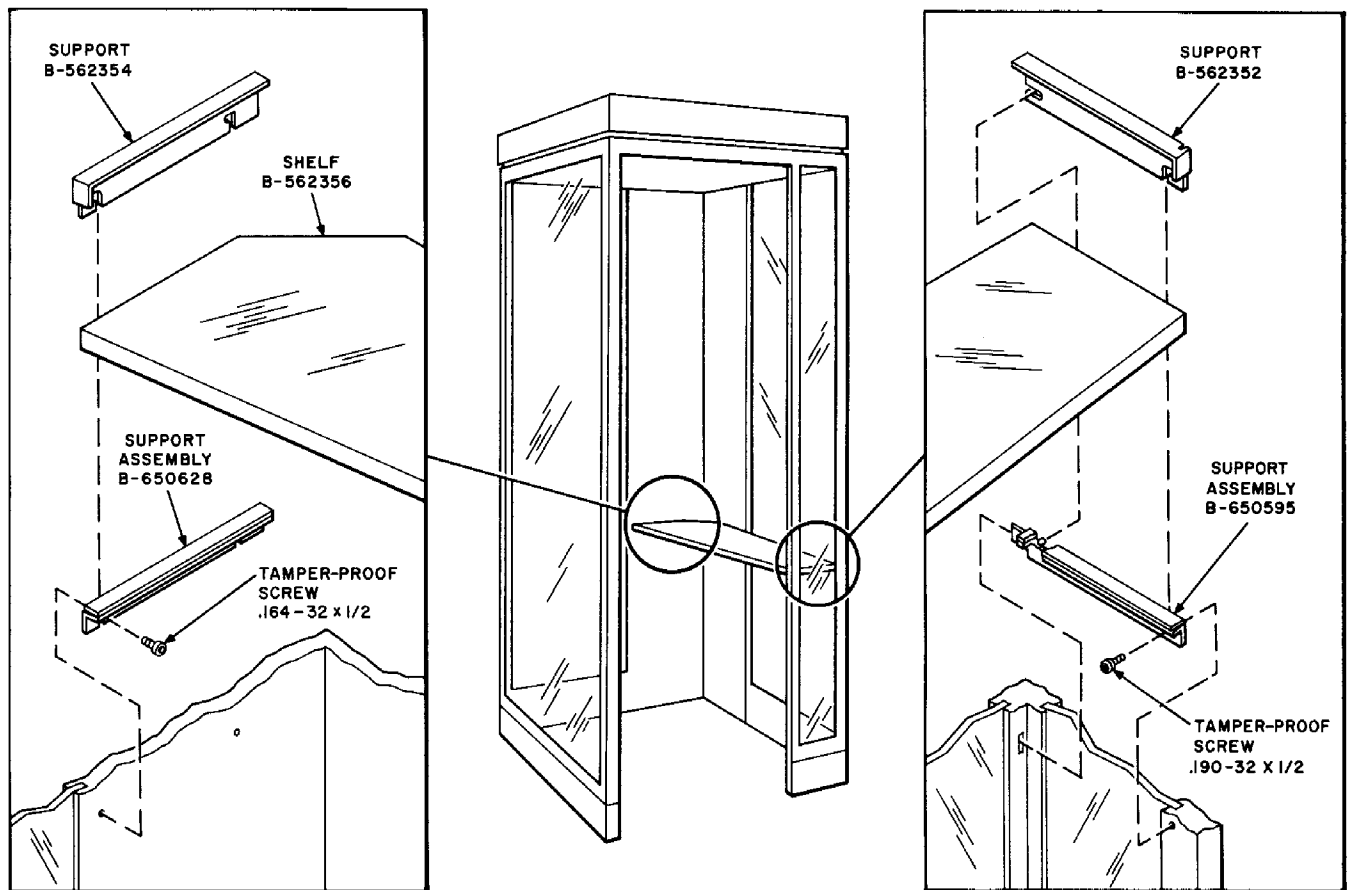
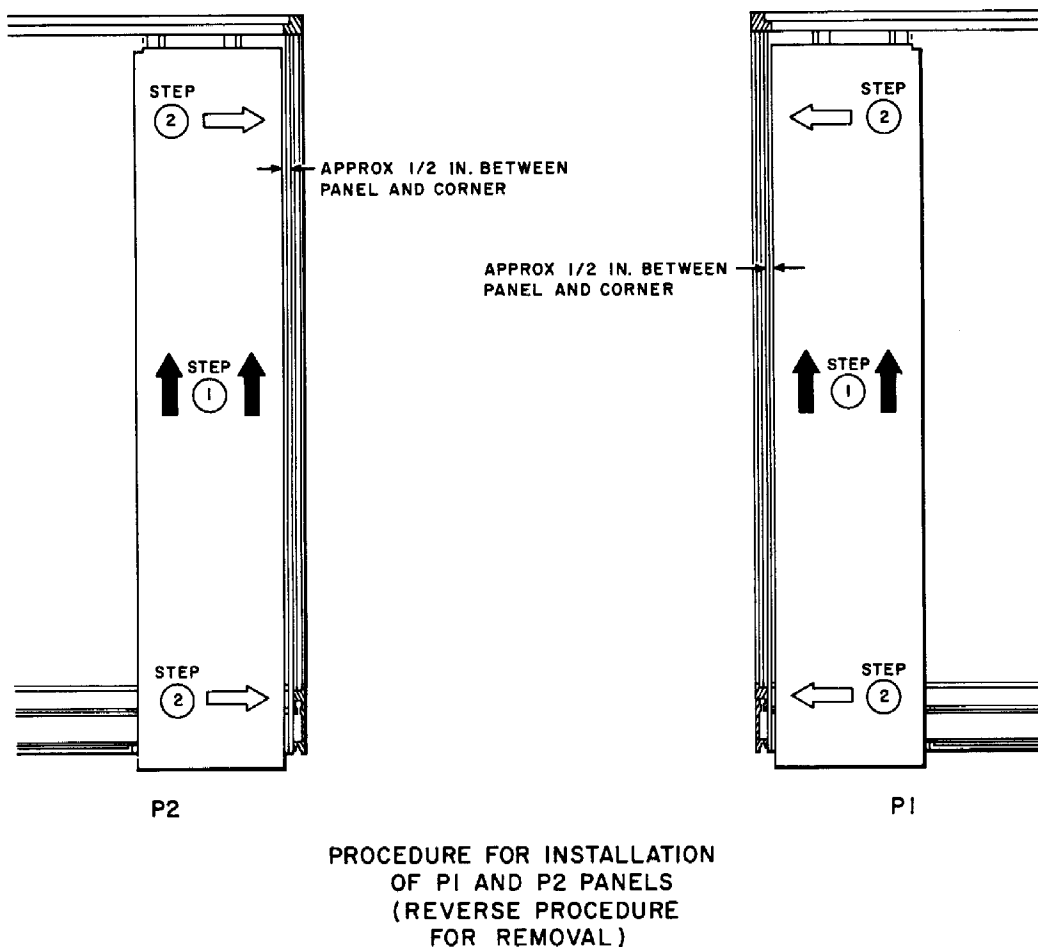

Fig. 5 — Installation of Shelf Assembly
Fig. 6 — Installation and Removal of P1 and P2 Panels
- (a) Loosen three tamper proof screws (Fig. 5) using KS-19192, List 1 wrench. Pull B-562352 and B-562354 supports forward and up and remove the glass shelf.
(c) Remove two .164-18 by 3/8 unpainted Phillips round head self-tapping screws and slide P1 panel to the right until it is free of the retaining clips as shown in Fig. 6. Pull bottom of panel out from wall and down to make wiring channels accessible.
(f) Install P1 panel (Fig. 6), blower switch coverplate, and glass shelf (Fig. 5).